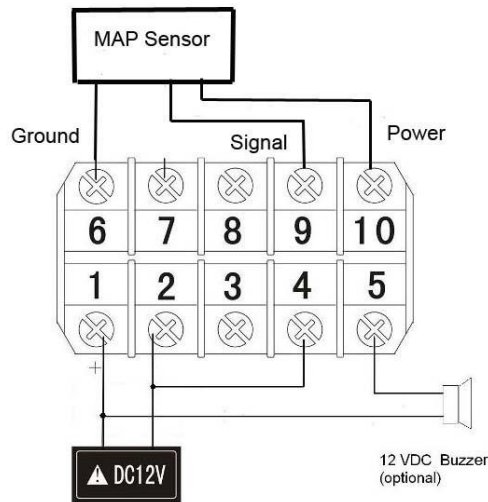

Fig 1a. Wiring diagram for SYL-1813 automobile multimeter.
1) SYL-1813 wiring the sensor as shown in Fig 1a. Connecting power lead (red) to terminal 10, signal lead (blue) to terminal 9, and ground lead (black) to terminal 6. The 12V DC buzzer is optional.